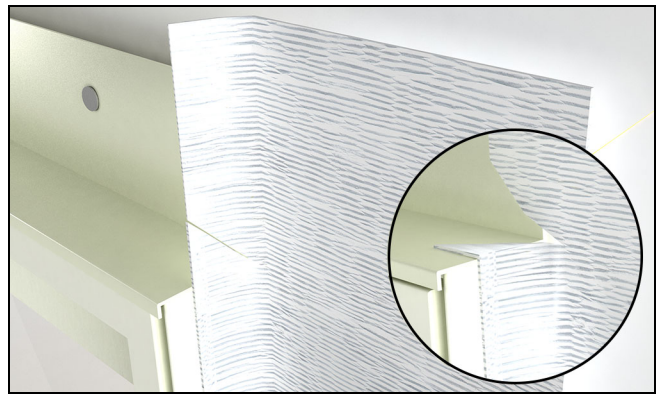

Figure 13
**6.** Lap vertical strips of adhesive flashing tape onto the unit and out over the WRB. Make small diagonal cuts at the head jamb as in Figure 13 to allow the membrane to fold back onto the exterior and frame.